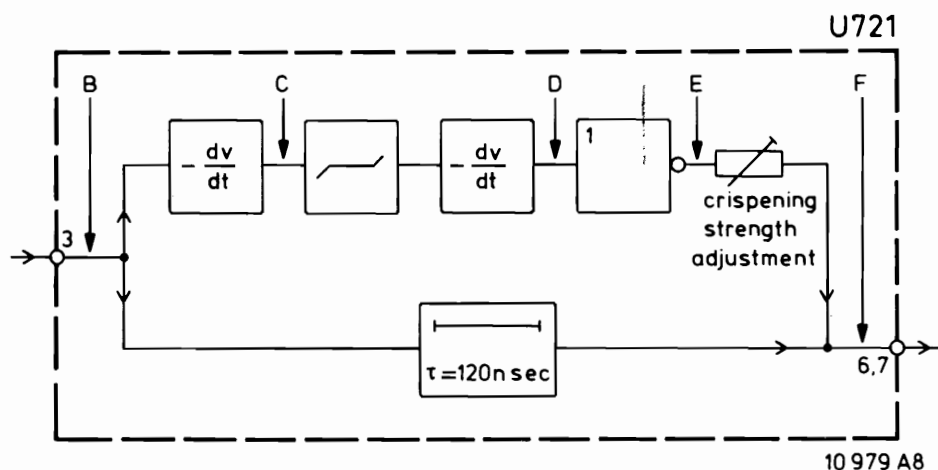

Fig. II-12
The signal reproduced (B) is differentiated, resulting in signal (C). Signal (C) is differentiated again, resulting in signal (D). Signal (D) is inverted, resulting in signal (E). The signals (B) and (E) are added together, resulting in the signal required (F). When comparing the non-adapted signal (B) to the adapted signal (F), it shows that the rise time has decreased. The block diagram of U721 is shown in Fig. II-12.